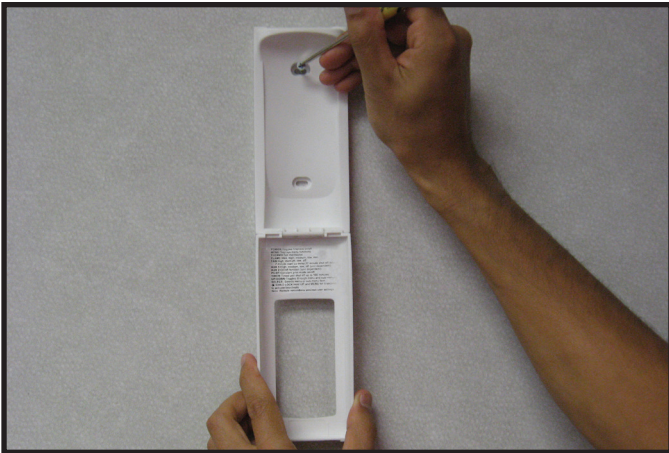

Figure 4.2. Mounting Remote Control Housing
3. Secure the remote control housing on a flat wall surface using the two screws and wall anchors provided. See Figure 4.2.